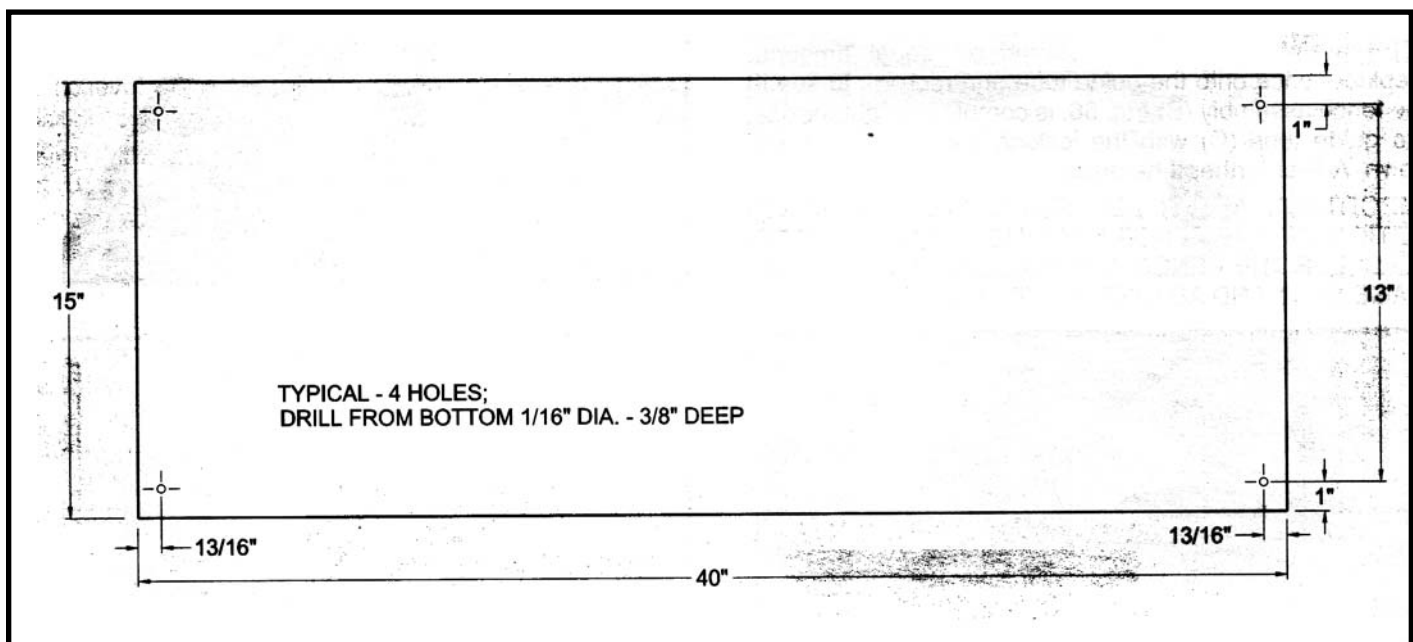

Fig. 59
2. The shelf board supplied will require four 1/16" diameter x 3/8" deep holes to be drilled in the bottom of the board at the locations illustrated in Fig. 59.